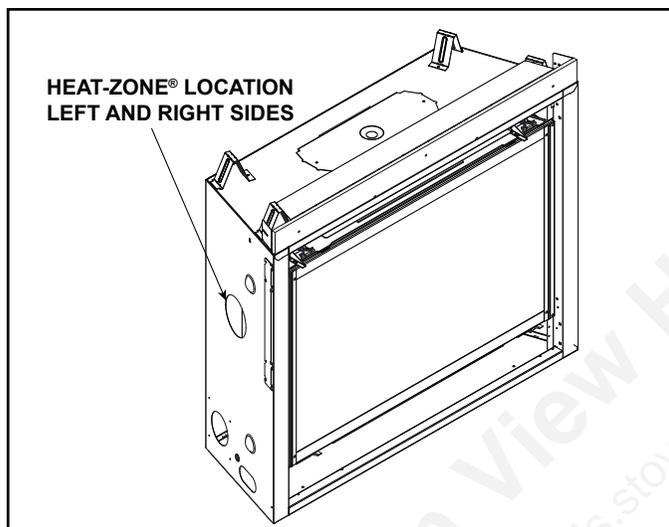

Figure 6.13 Heat-Zone® Locations
- Locate the Heat-Zone® ports on the left and right sides of the appliance. Either one or two Heat-Zones® may be installed. See Figure 6.13. Remove the knockout(s) from the appliance with a tin snips.